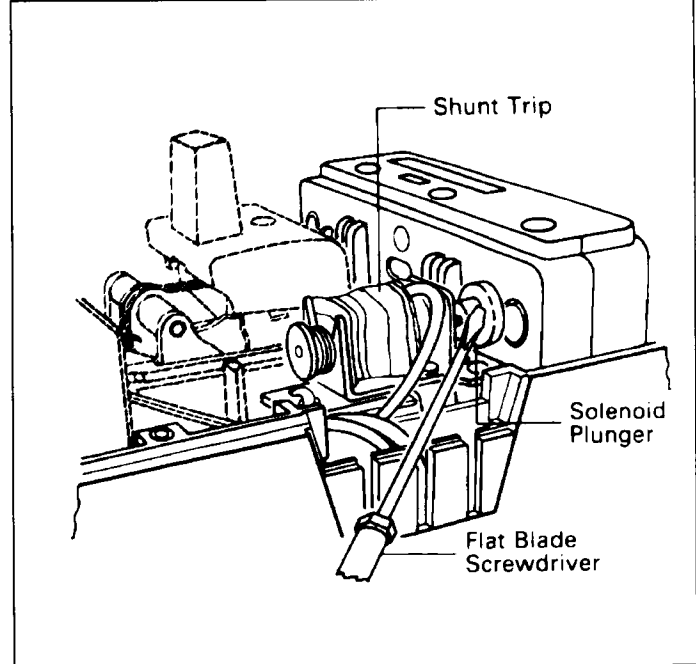

Fig. 2-5. Screwdriver Depressing Shunt Trip Solenoid Plunger
- Using a small flat-blade screwdriver, depress solenoid plunger (Fig. 2-5). Circuit breaker should move to TRIP position.